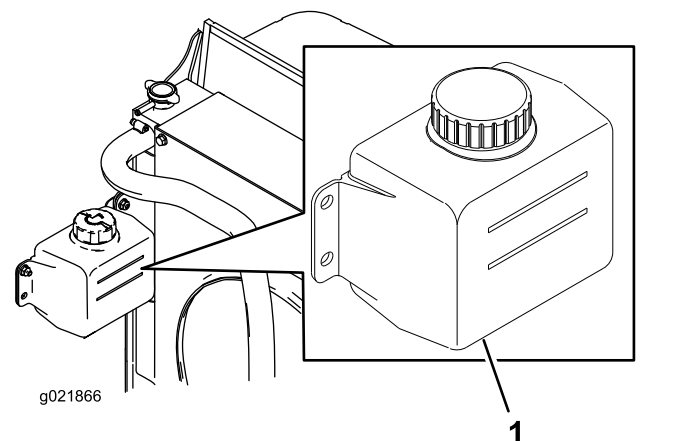

Figure 92
1. Check the level of coolant in the reservoir (Figure 92).